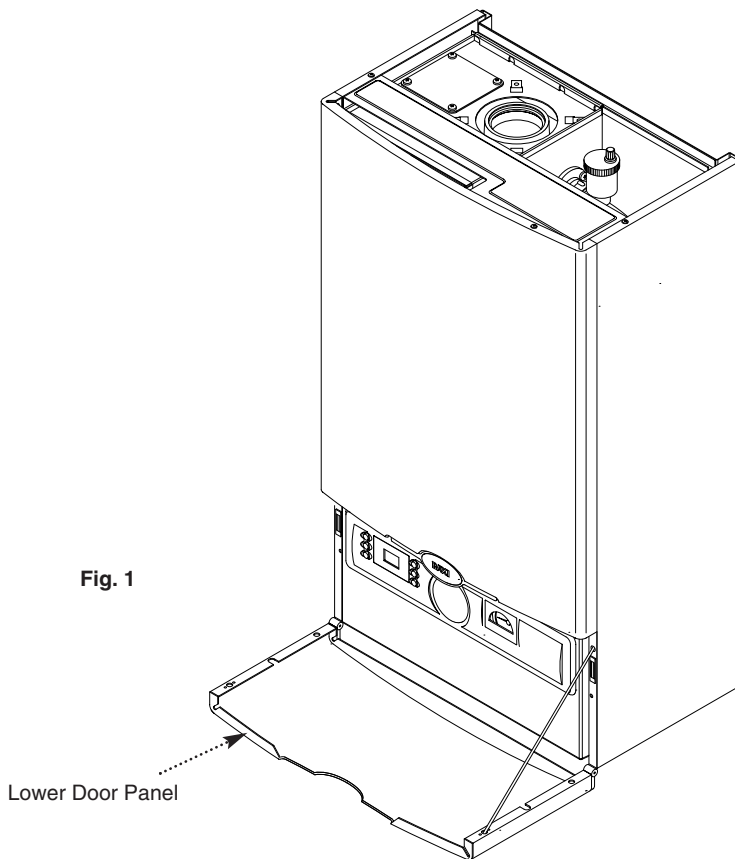

Fig. 1
6. A label giving details of the model, serial number and Gas Council number is situated on the rear of the lower door panel (Fig. 1).